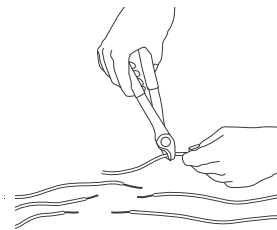

Fig. 6 Cutting and stripping the motor leads
2. Cut the motor leads off in a staggered manner. Cut the ends of the drop cable so that the ends match up with the motor leads. See fig. 6. On single-phase motors, be sure to match the colors.